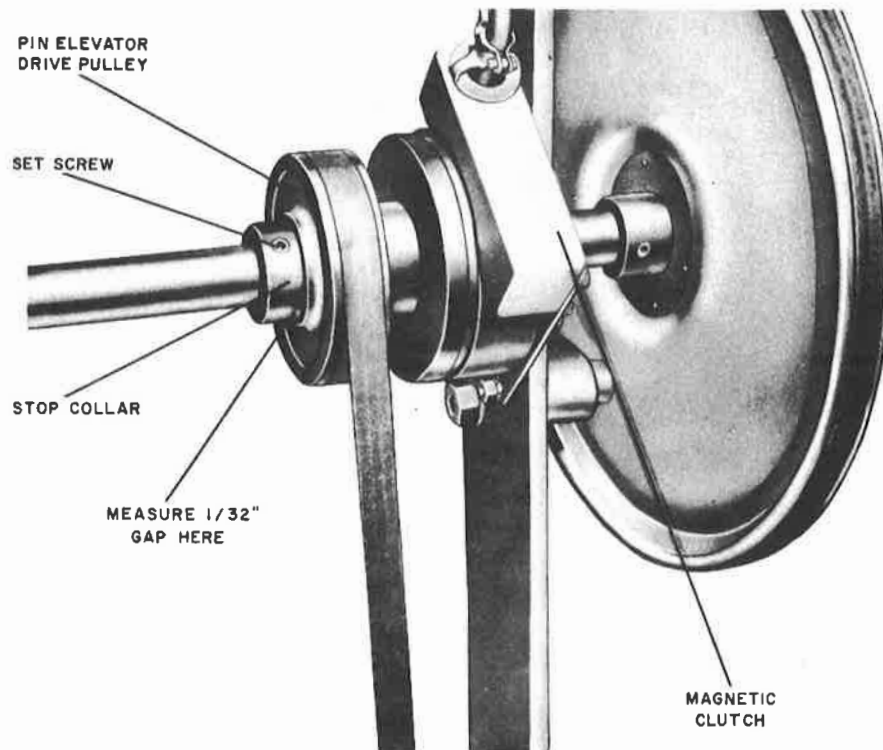

Figure 96. Magnetic Clutch Adjustment
45. MAGNETIC CLUTCH ADJUSTMENT. (FIGURES 96 and 97)